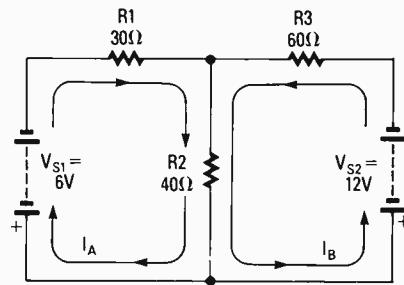

Fig. 5. Using the parts values and loops supplied you must solve for the currents through each component.
9. To understand the process, it is best that you go through an example yourself. It's a bit of work, but very satisfying and revealing. Try to solve for the currents in Fig. 5. (The loops have already been selected for you, so your solution should be similar to the one provided in the answers to the problems.